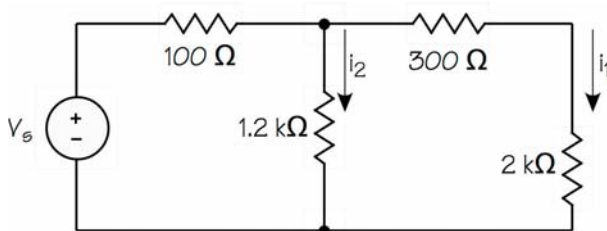
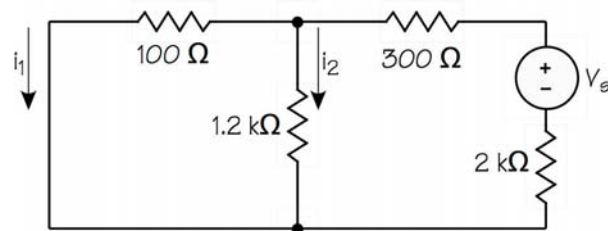

Fig. 3—First circuit
Fig. 4—Second circuit
Measure and record the resistance of each of the resistors shown in Fig. 3 so that you can use their actual values to calculate current. Then build on your breadboard the circuit of Fig. 3. Use one of the four-cell battery packs to supply approximately 6 volts to the circuit. Then proceed as follows:
5. Place the voltage source in the right-hand branch in series with the 2-k Ω resistor as shown in Fig. 4. Note that you'll have to separate the ends of the 300- Ω and 2-k Ω resistors to insert the voltage source into the path.
Compare the currents for the two circuit arrangements. Does i_1 for Fig. 3 equal i_1 for Fig. 4, at least within experimental error? They should, which demonstrates reciprocity.